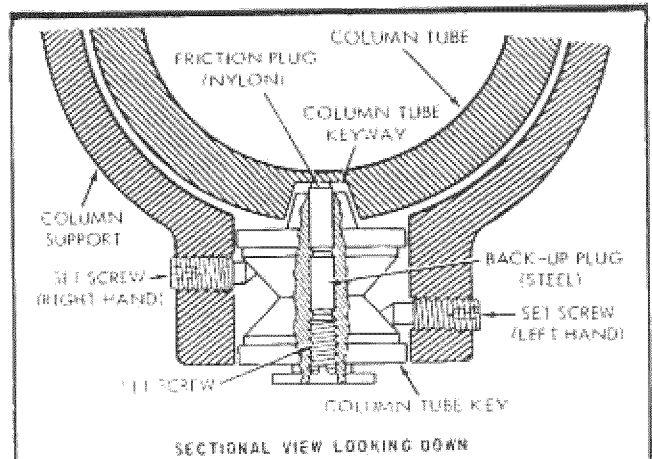
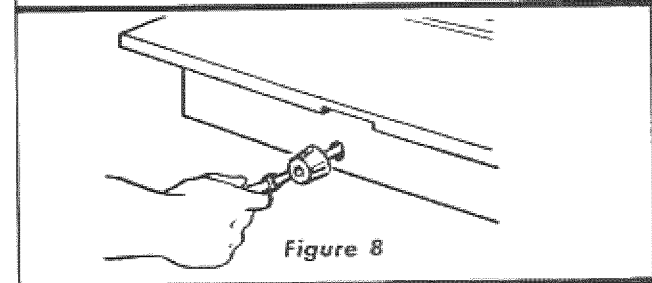

Figure 7
Figure 8
**NOTE:** Before attempting to adjust the column tube key, the function of this adjustment should be understood. Figure 7 shows a sectional view through the column tube support (looking downward) at this location. By
- a. Loosen set screw in center of column tube key. (See figure 7.)
- b. Loosen left-hand set screw 1/4 turn. (See figure 7.)
- c. Tighten right-hand set screw. (See figure 7.)
- d. Tighten left-hand set screw. (See figure 7.)
- e. Turn elevation crank to raise and lower radial arm. (See figure 8.) If too tight, loosen right-hand set screw (figure 7) slightly and check again for smooth operation. When correct, tighten left-hand set screw.
- f. Tighten set screw in center of column tube key (figure 7) until smoothest operation is obtained.